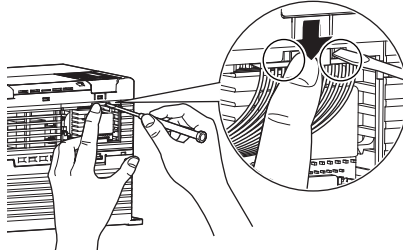

Figure 11 Unplugging the Drive Cable Connection (PS-V10M)
1. Unplug one end of the existing drive cable from its socket inside the drive as shown in Figure 11. Press inward on the cable release tab in the center of the cable connector and use a flat-blade screwdriver to gently pry down to remove the connector from its socket.